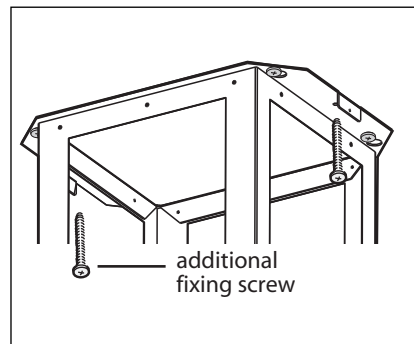

FIG.8
- Make final angular adjustment to unit at ceiling if necessary, then finish installation adding two fixing screws. See Fig. 8.